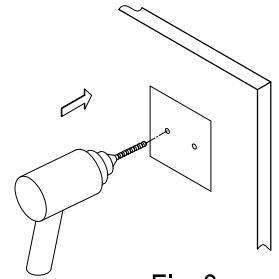

Fig. 3
- Step 2. Place the mounting plate in the center of the pencil outline you just made and mark the location of the mounting screws (fig 2). Drill holes at the marked locations (fig 3).